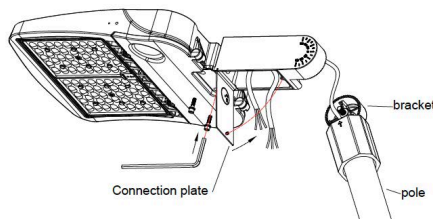

Fig.10
**For Type F Description 4-5, see Fig.10**